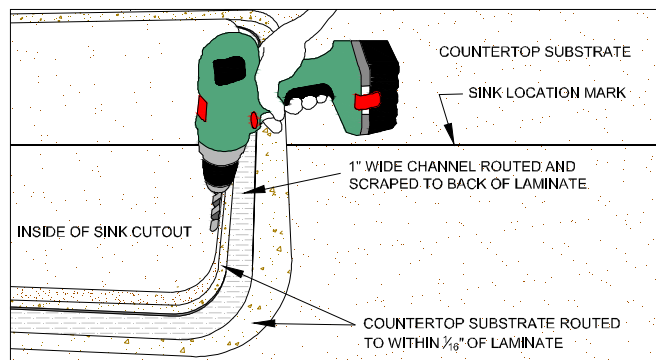

Figure 11A
- Drill a  $\frac{1}{2}$ " or larger pilot hole through the substrate at the inside of the sink cutout to insert a laminate trim bit to cutout center piece. (FIG. 11A)